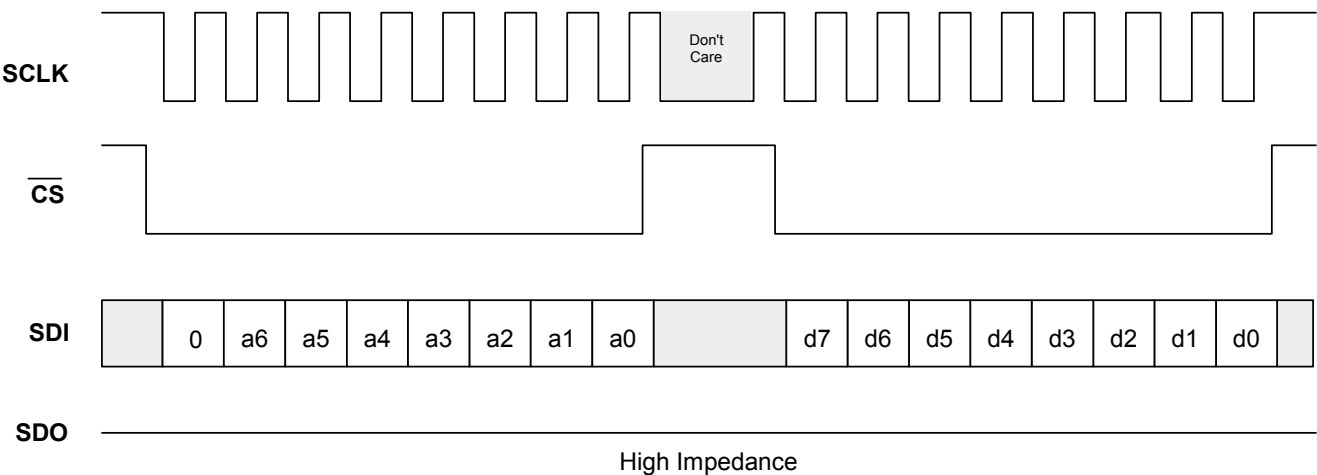

Figure 26. Serial Write 8-Bit Mode
The control interface to the ProSLIC is a 4-wire interface modeled after commonly-available micro-controller and serial peripheral devices. The interface consists of a clock (SCLK), chip select (CS), serial data input (SDI), and serial data output (SDO). Data is transferred a byte at a time with each register access consisting of a pair of byte transfers. Figures 26 and 27 illustrate read and write operation in the SPI bus.
The first byte of the pair is the command/address byte. The MSB of this byte indicates a register read when 1 and a register write when 0. The remaining seven bits of the command/address byte indicate the address of the register to be accessed. The second byte of the pair is the data byte. Because the falling edge of $\overline{\text{CS}}$ provides resynchronization of the SPI state machine in the event of a framing error, it is recommended (but not required) that $\overline{\text{CS}}$ be taken high between byte transfers as shown in Figures 26 and 27.